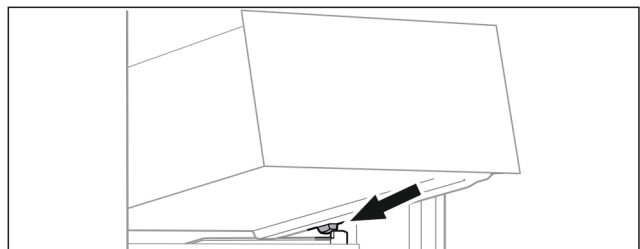

Fig. 99
- ▶ Place drawer at an angle behind the stoppers on the moulded rib. (see Fig. 99)